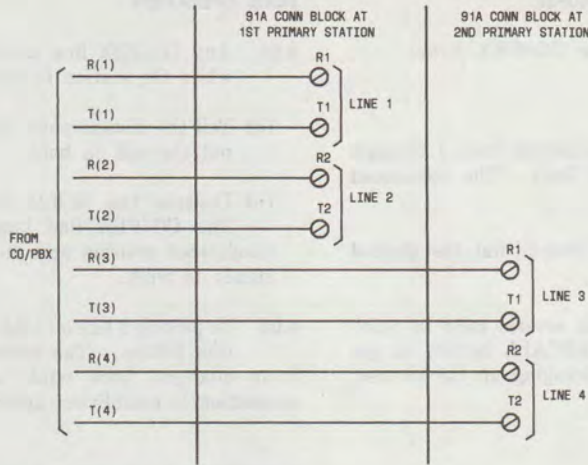

Fig. 47—CO/PBX Line Connections Using 91A (MD) Connecting Block
3.68 Connections for common CO/PBX lines on 91A (MD) blocks are shown in Fig. 47.